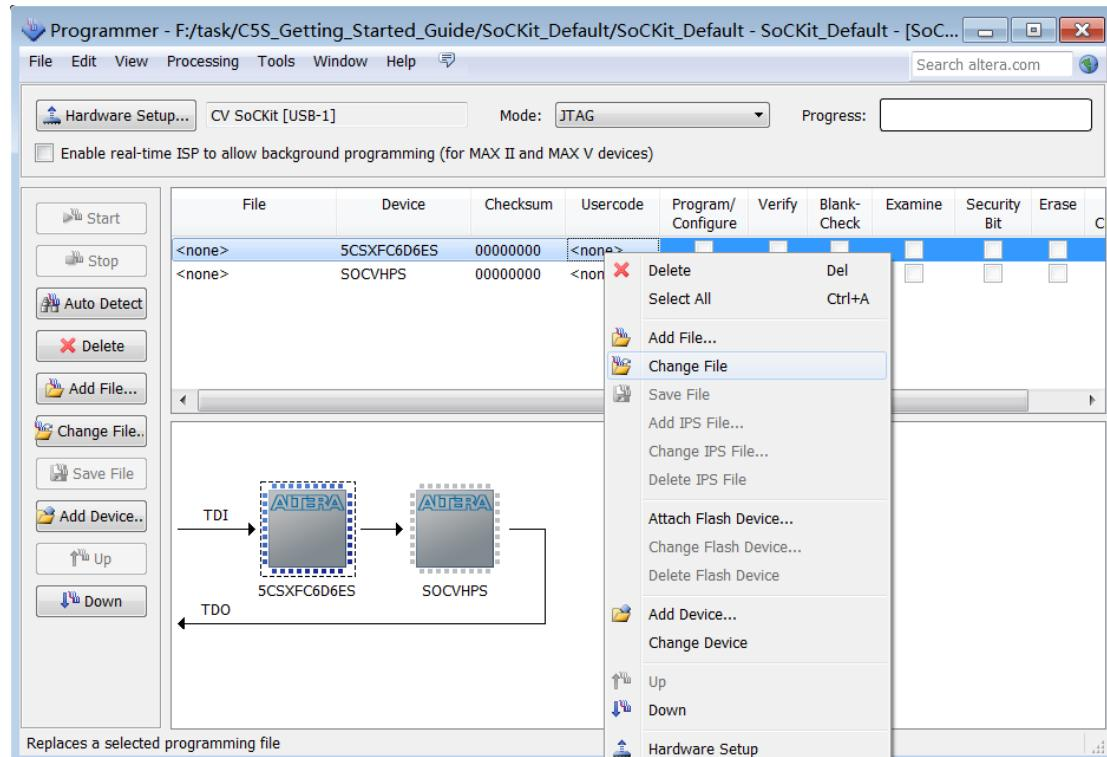

Figure 7-7. Add .jic file
- iii. Click the FPGA device and right click mouse, click **Change File** and select .jic file for FPGA. See **Figure 7-7**.